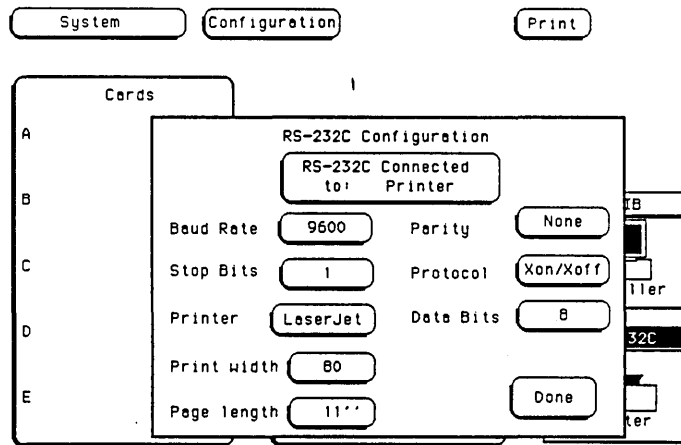

Figure 2-9. RS-232C Configuration Menu.
2. Touch the **RS-232C** field in the lower right corner of the screen to call up the RS-232C configuration menu (see figure 2-9).